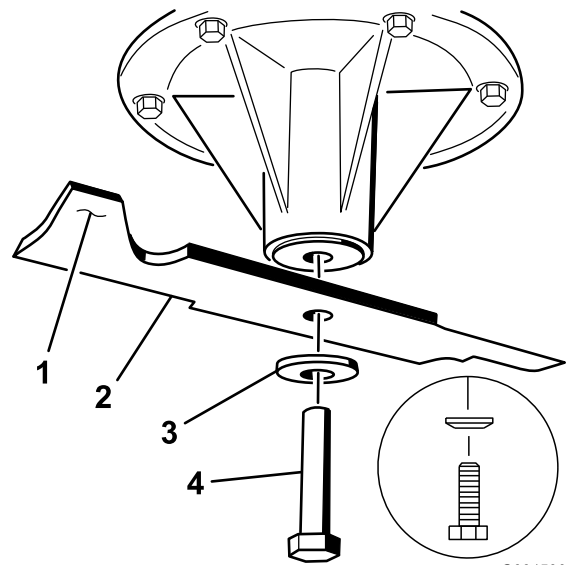

Figure 78
2. Install the blade onto the spindle shaft (Figure 78).
3. Install the curved washer and blade bolt (Figure 78).
- Note:** The curved washer cone must be installed toward the bolt head (Figure 78).